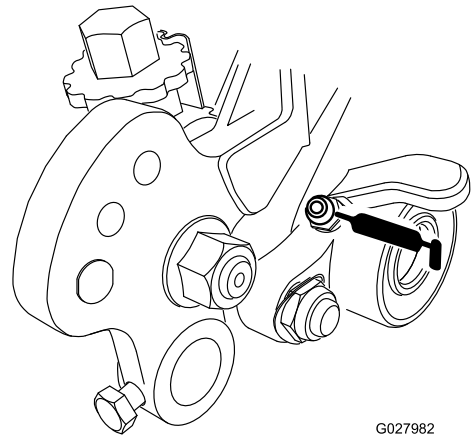
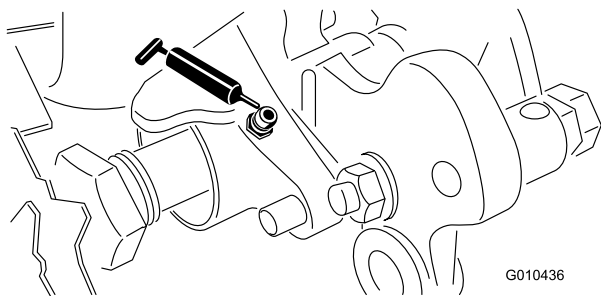

Figure 17
Figure 18
33. Lubricate the groomer bearings (Figure 17 and Figure 18) weekly or after every 10 operating hours, before extended periods of non-use and immediately after every washing. Pump grease into the fittings until the grease is purged onto the groomer shaft. Wipe excess grease from seals and shaft.